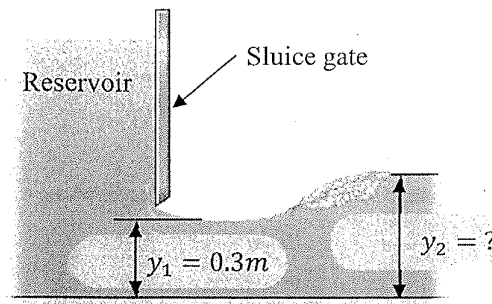

Figure Q4
- (ii) **Figure Q4** shows a sluice gate of a reservoir and water is discharged through a 5 m wide channel. As shown in **Figure Q4**, water passing under the gate forms a hydraulic jump. If the flowrate of the channel needs to be maintained at $3.5 \text{ m}^3/\text{s}$, determine the following. Assume rectangular cross-section at the sluice gate and in the channel.